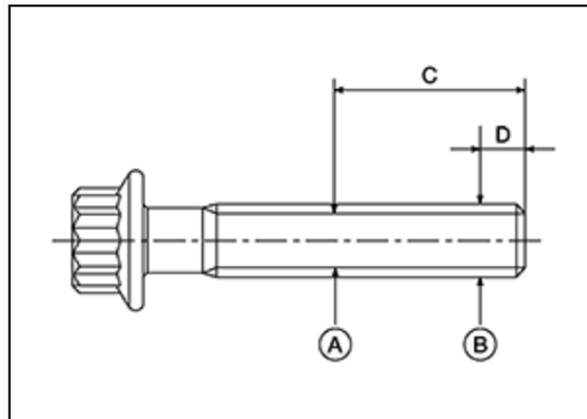

Figure 2
- Measure the outer diameter at location (A) and location (B) shown in Figure 2.